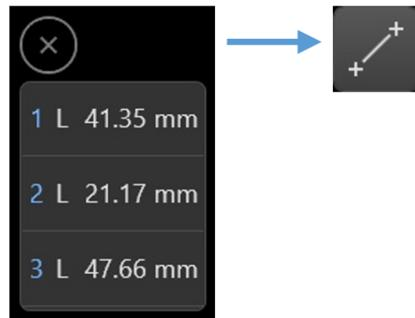

Figure 7-5. Minimizing the Result Window
- Tap on the circle-X symbol (Figure 7-5) to minimize the window into the caliper symbol shown on the right.